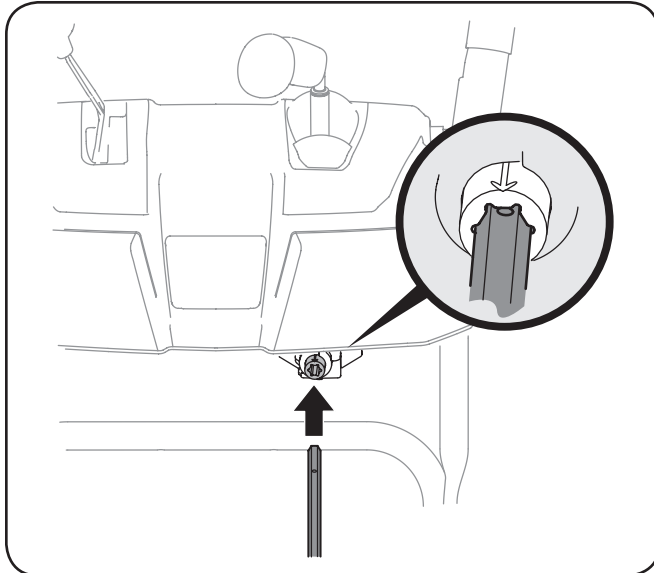

Fig. 3-8
6. Insert the chute control rod (*hole pointing upward*) into the pinion gear. See Fig. 3-8.